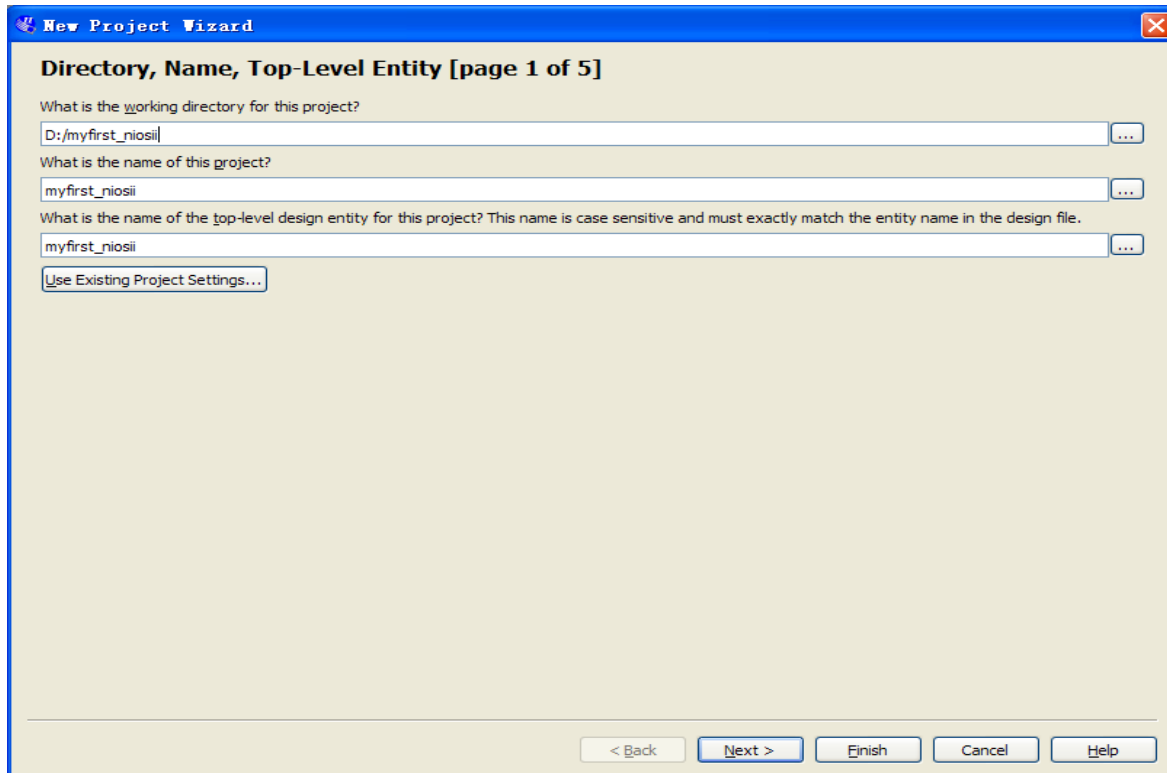

Figure 7-3 Input the working directory, the name of project, top-level design entity
2. Select a working directory for this project, type project name and top-level entity name as shown in **Figure 7-3**. Then click **Next**, you will see a window as shown in **Figure 7-4**.